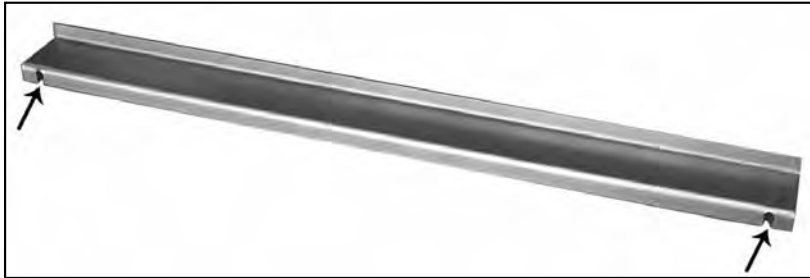

Figure 62: Brick panel bracket, slots shown.
1. Remove the two (2) screws from the rear of the baffle, use a ¼" socket or a flat head screwdriver. Place the provided brick bracket (Figure 62) at the rear of the baffle with the slots over the screw holes (see Figure 63). Insert two (2) of the provided screws into the two (2) holes along the bottom of the baffle.